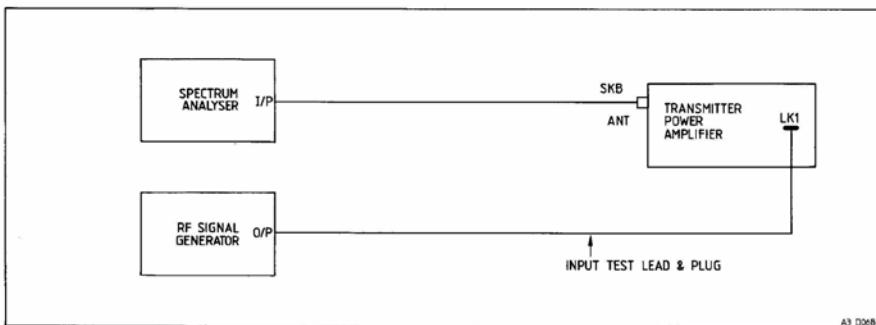

Fig.2 Antenna Filter Test Circuit - Direct Sweep
- 6. Connect the test equipment as shown in Fig.2 (for A,B and E Bands only) and sweep the filter directly. The attenuation at 136MHz (E Band), 246MHz (A and B Bands), should be greater than 55dB.